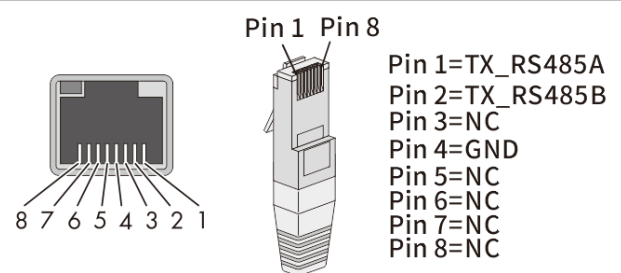

Fig. 35. Cable pin assignment
2. Strip the insulation from the network cable and crimp copper wire to the corresponding terminal (in accordance with DIN 46228--4, provided by the customer) of the standard network connector (RJ45) (see Fig. 35).